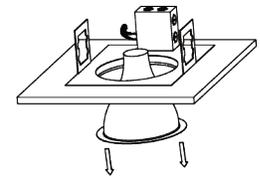

Fig. 2
- Shut off power to the circuit before beginning installation. Remove existing trim and CFL or incandescent bulb. **NOTE:** Follow all federal and local regulations when disposing of luminaires and removed components (Fig. 2).